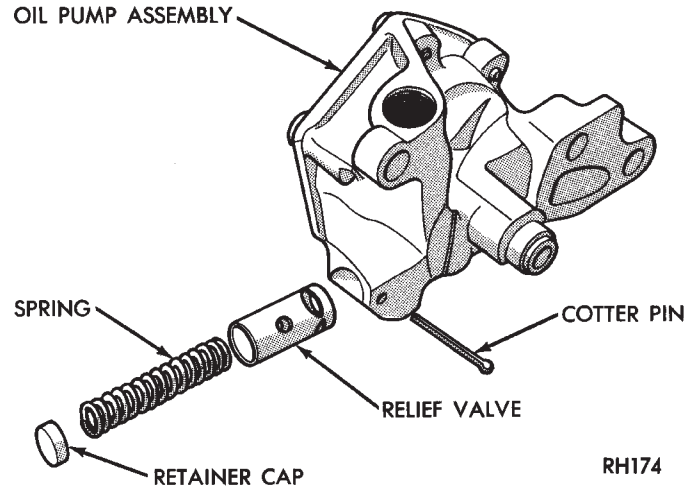

Fig. 57 Oil Pressure Relief Valve
- (1) Remove the relief valve as follows:
- (b) Clamp screw into a vise and while supporting oil pump, remove cap by tapping pump body using a soft hammer. Discard retainer cap and remove spring and relief valve (Fig. 57).